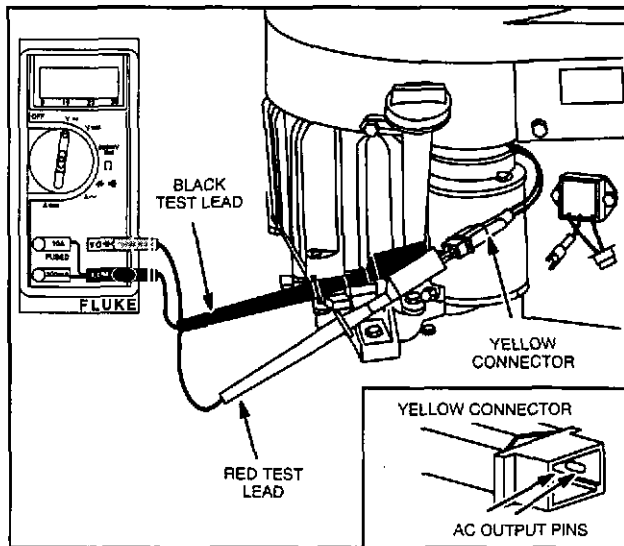

Fig. 22 - Testing AC Output
4. Insert RED and BLACK test lead probes into output terminals in yellow connector, as shown in Fig. 22. (Meter test clip leads may be attached to either terminal.)